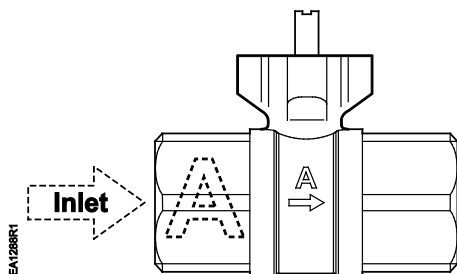

Figure 4.
- a. **Non-installed Valves** – Verify that the ball valve is open by looking into the "A" (inlet) port to see if it is open. (See Figure 4.)
- Non-installed valves** - visually verify that the ball valve is closed by looking into the "A" (inlet) port. See Figure 4.